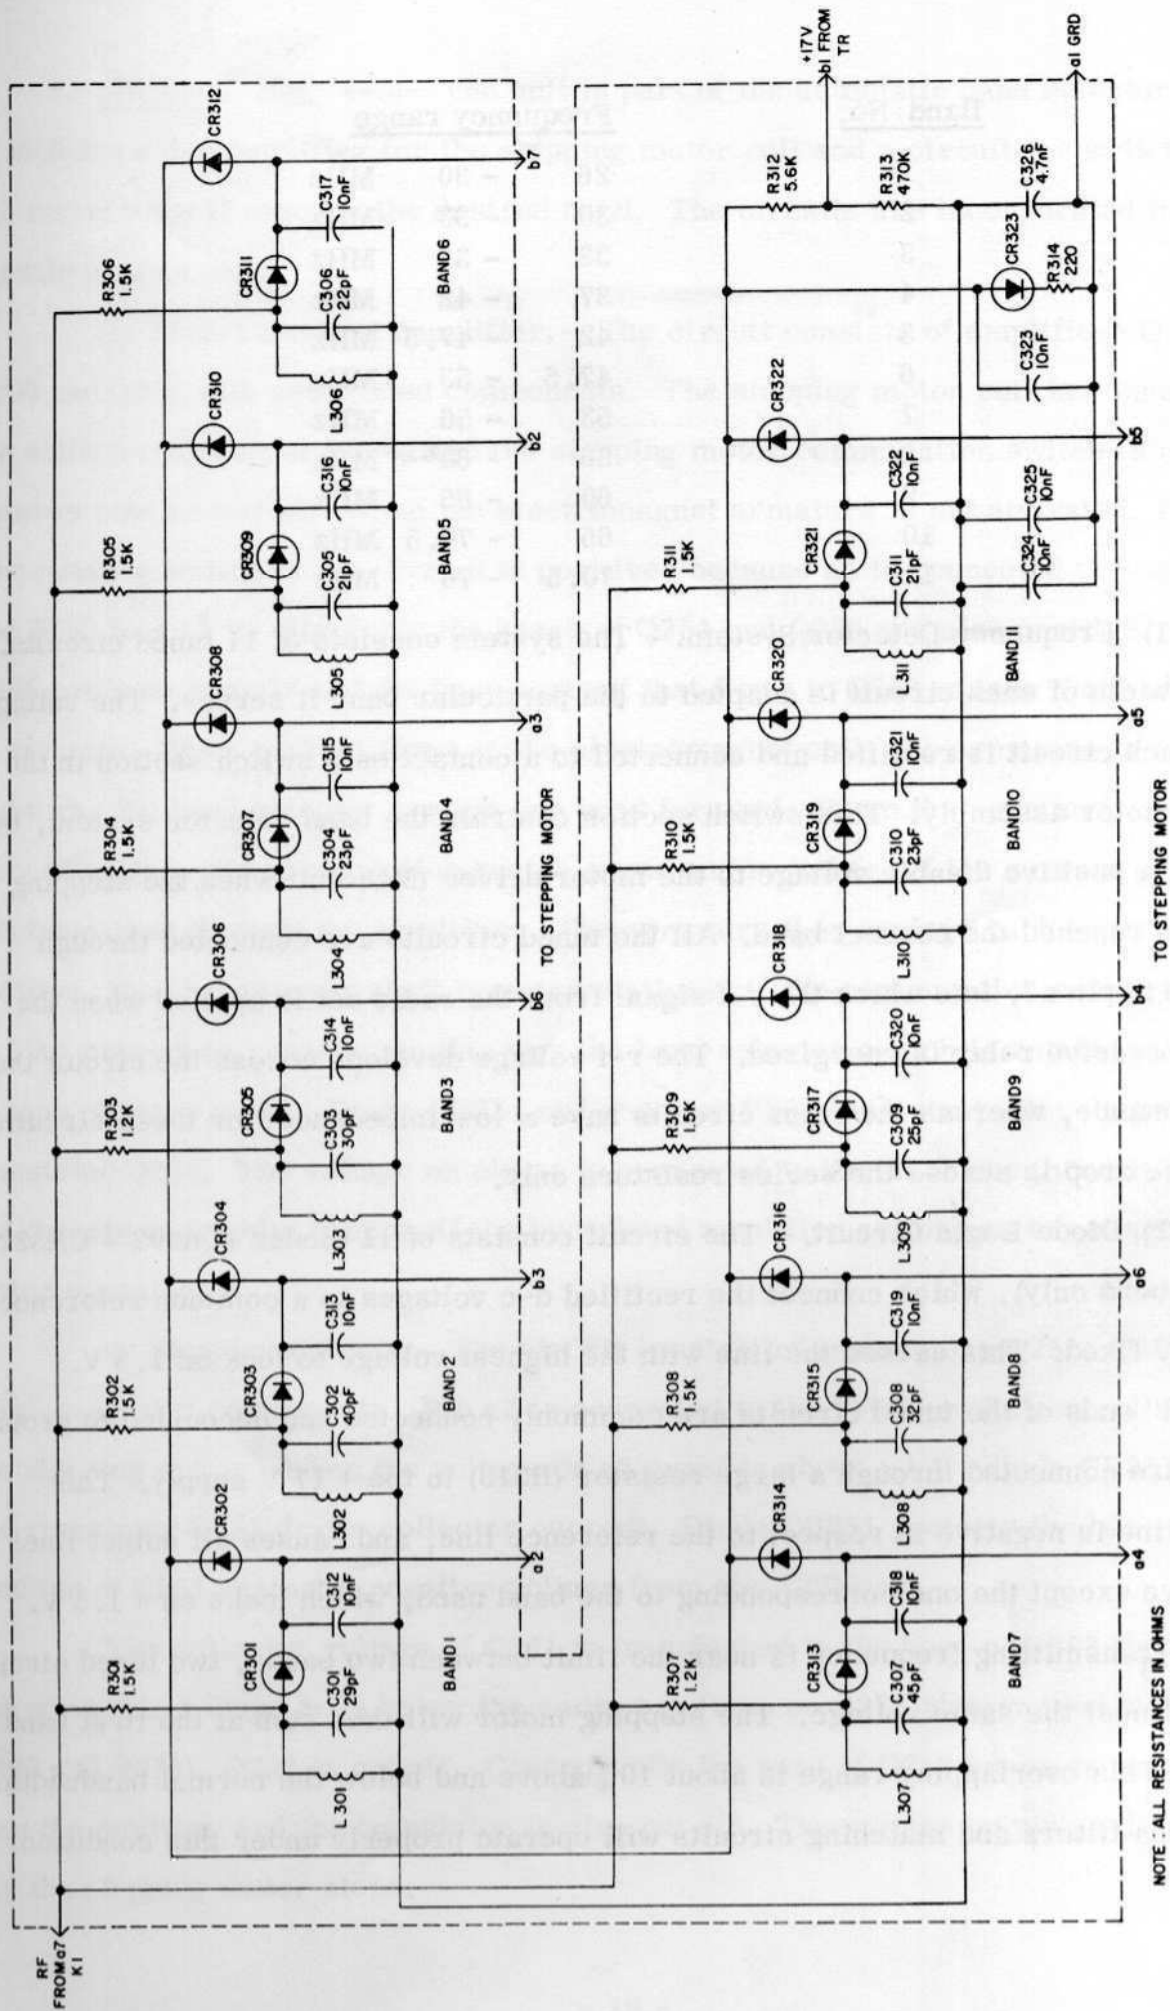

Figure 4-4. Automatic Tuning Detector (ATD) Unit A300, Schematic Diagram
(3) Voltage Stabilizer. - The circuit consists of transistor Q105 with its associated components. It is powered during transmission and supplies stabilized +17 V to each unit in the RB-25. The voltage stabilizer is fed by +24 V through a set of contacts on relay K2. Zener diode CR104 furnishes +18V to the base of Q105; about +17V can be obtained from the emitter of Q105. The resistance in series with CR104 consists of three parallel-connected resistors for power handling. Capacitor C106 decouples CR104 to prevent low frequency noise on the +17 V line. Transistor Q105 is thermally connected to the bottom of the module case for heat dissipation.
b. ATD Unit. (fig. 4-4)- The Automatic Tuning Detector (ATD) unit forms part of the automatic band selector system. It includes a frequency detecting system and diode logic. The circuit is incorporated in a three module plug-in unit.